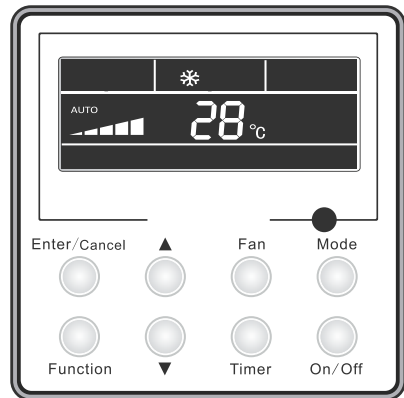

Fig.5 ON State of the Unit
- ②. The state shown in Fig.5 indicates the ON state of the unit after energization.